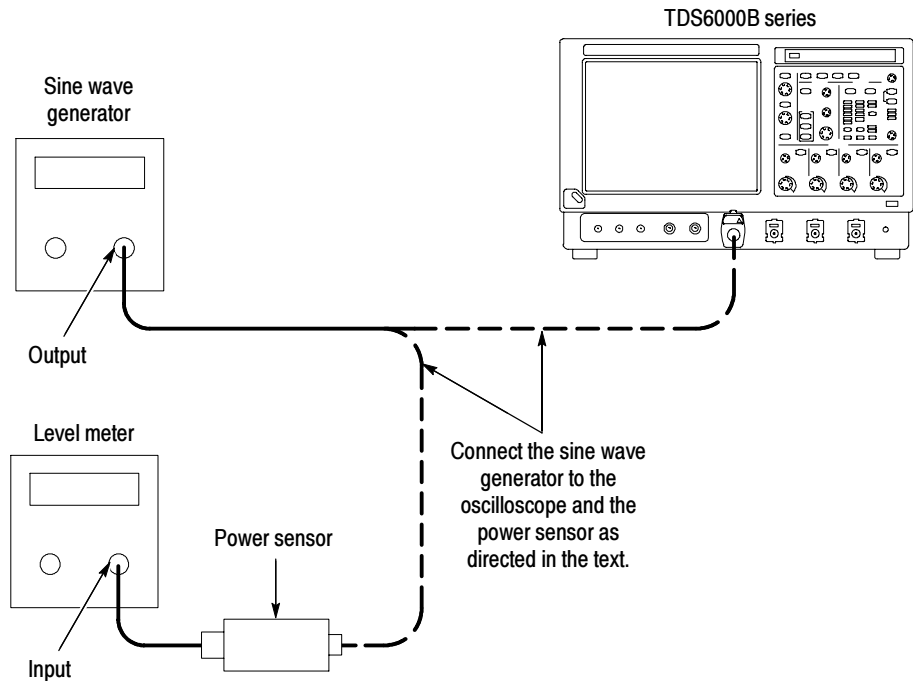

Figure 4-34: Equipment setup for maximum amplitude
1. *Install the test hookup:* Connect the equipment as shown in Figure 4-34 (start with the sine wave generator connected to the oscilloscope).